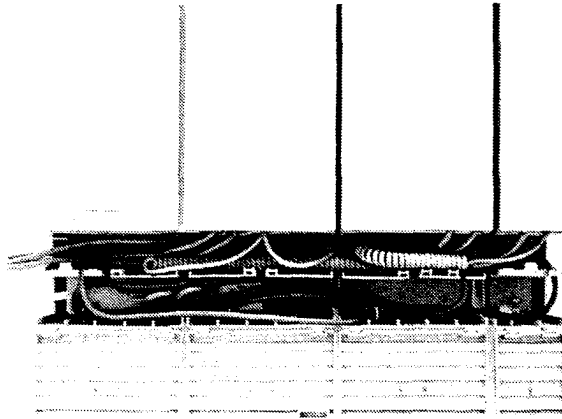

Figure 7.2 - Cable trough wiring and power bar
3. Plug ac power cord from the KSU, TM and SM into the power bar (Figure 7.2).